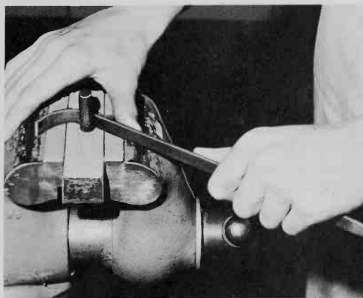

Fig. 4-68. Forming a scroll by hand.
4. Start forming the scroll by grasping the end of the metal with one hand, placing the other end in the bending device and holding it in place with the other hand, Fig. 4-68. Apply pressure with the thumb of the hand at the bending jig. Use the other hand to pull the metal against the bending jig with enough pressure to start forming the scroll. Move the metal into the jig a little at a time and continue to apply even pressure. This allows the scroll to form evenly and gradually without sharp bends. Most beginners have trouble forming scrolls without sharp bends because they try to